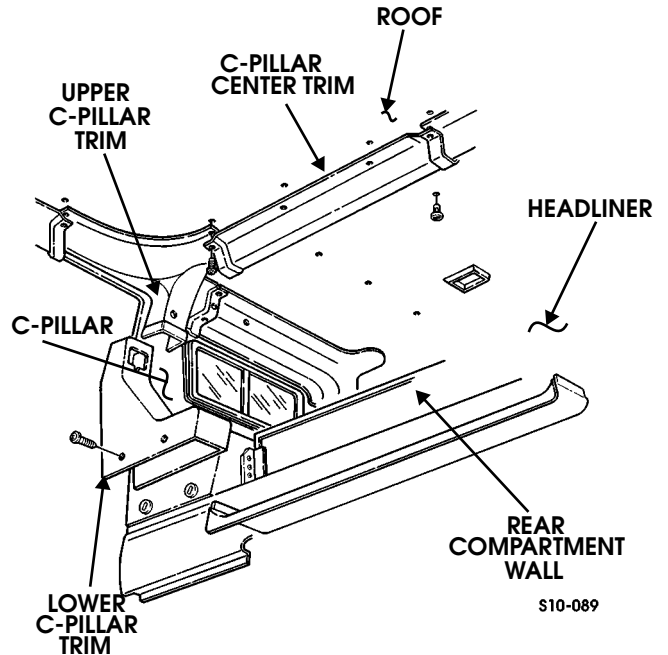

Figure 10-43: Station Wagon Interior Trim Component Identification
8. Remove screw/washer assemblies and C-pillar center trim from roof (Figure 10-43).
7. Secure lower C-pillar trim to lower C-pillar with four screw and washer assemblies (Figure 10-43).